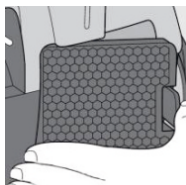

Figure 47
1. To open the filter grille, squeeze the tab, pull the grille toward you and remove it from the vacuum cleaner (Figure 47, 48).